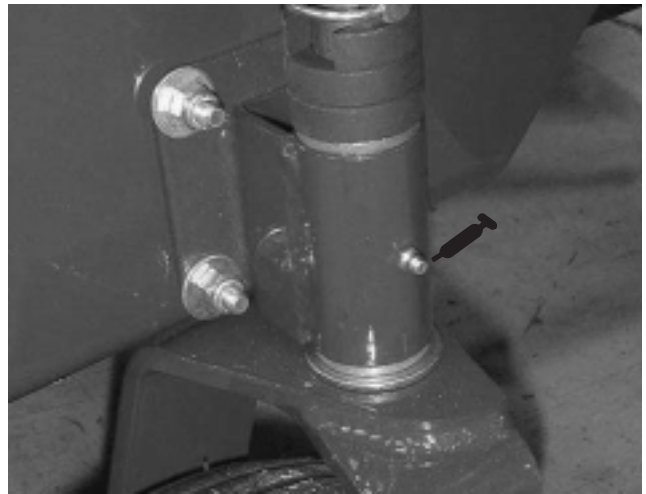

Figure 12
Under normal conditions, grease the (2) castor wheel pivot tubes (Fig. 12) after every 50 hours of use. Use a No. 2 Lithium-based grease.